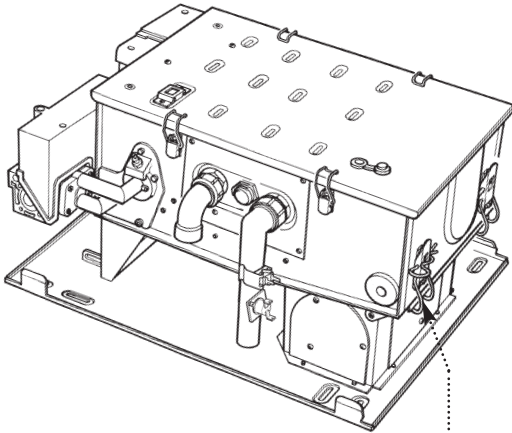

Fig. 15
4. Release the R clip from the top latch securing the combustion box to the back plate and release both latches (Fig. 15).